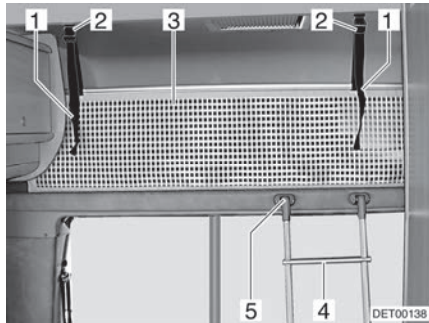

Fig. 71 Overcab bed
**Access ladder** Always use the access ladder (Fig. 71,4) provided as standard to access the overcab bed.
*Attaching:* ■ Attach the ladder with the rails to the holder (Fig. 71,5) on the alcove panel.
**Safety net** The safety net (Fig. 71,3) is stored as standard between the mattress and slatted frame. Only use the safety net if persons are already in the alcove.
*Setting up:* ■ Let the retaining straps (Fig. 71,1) snap into the holders (Fig. 71,2) on the ceiling.